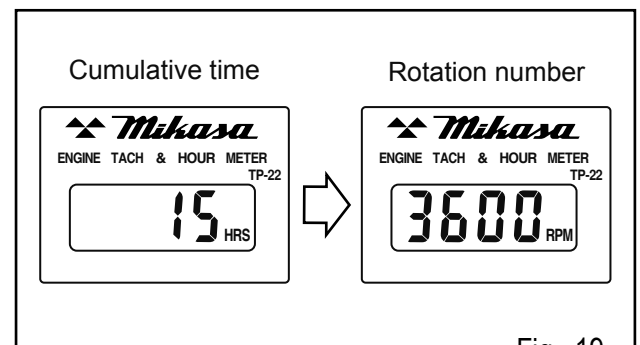

Fig. 19
7. "Rotation number" is displayed during operation. (Fig.19)